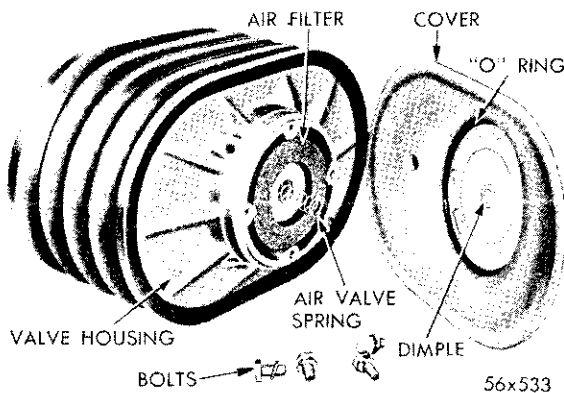

Fig. 28—Removing the Valve Housing Cover
(13) Remove the plate and lift out the return spring and the return spring retainer.
(14) Place the unit on its side and remove the bolts and lockwashers that attach the valve cover to the valve. Lift off the cover (Fig. 28). (If it is necessary, use a flat blade to separate the cover plate from the bellows flange.)